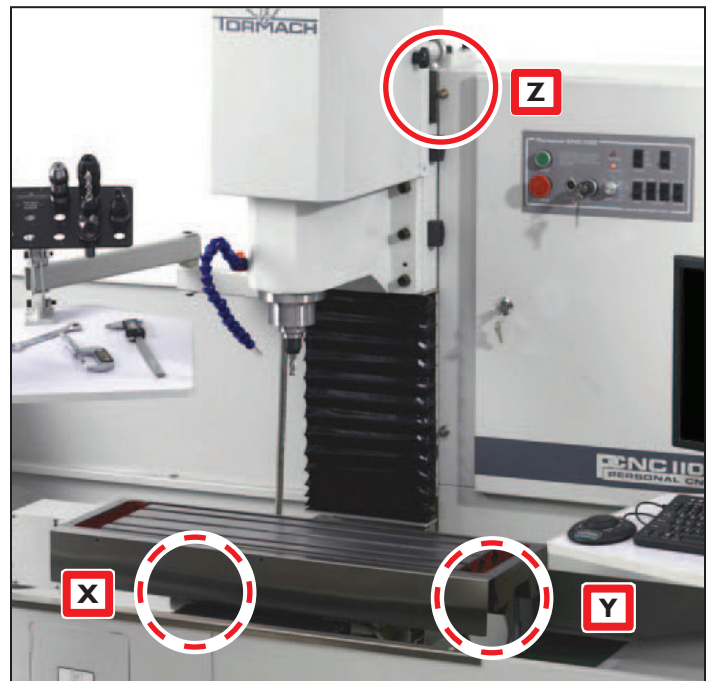

Figure 3.18
There are three limit switches, one for each axis of motion (X, Y, and Z), as shown in **Figure 3.18**.
2. Manually depress X, Y, and Z limit switches by hand (see **Figure 3.18**).